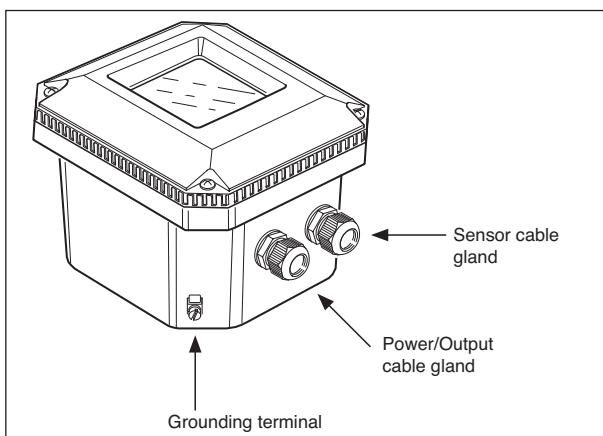

Figure 3-5. Glands to be used for cabling
The power/output connections and the sensor connections should be made in accordance with figure 3-5.
4. Connect the sensor input, using the gland on the right (see fig. 3-5). Switch on the power.